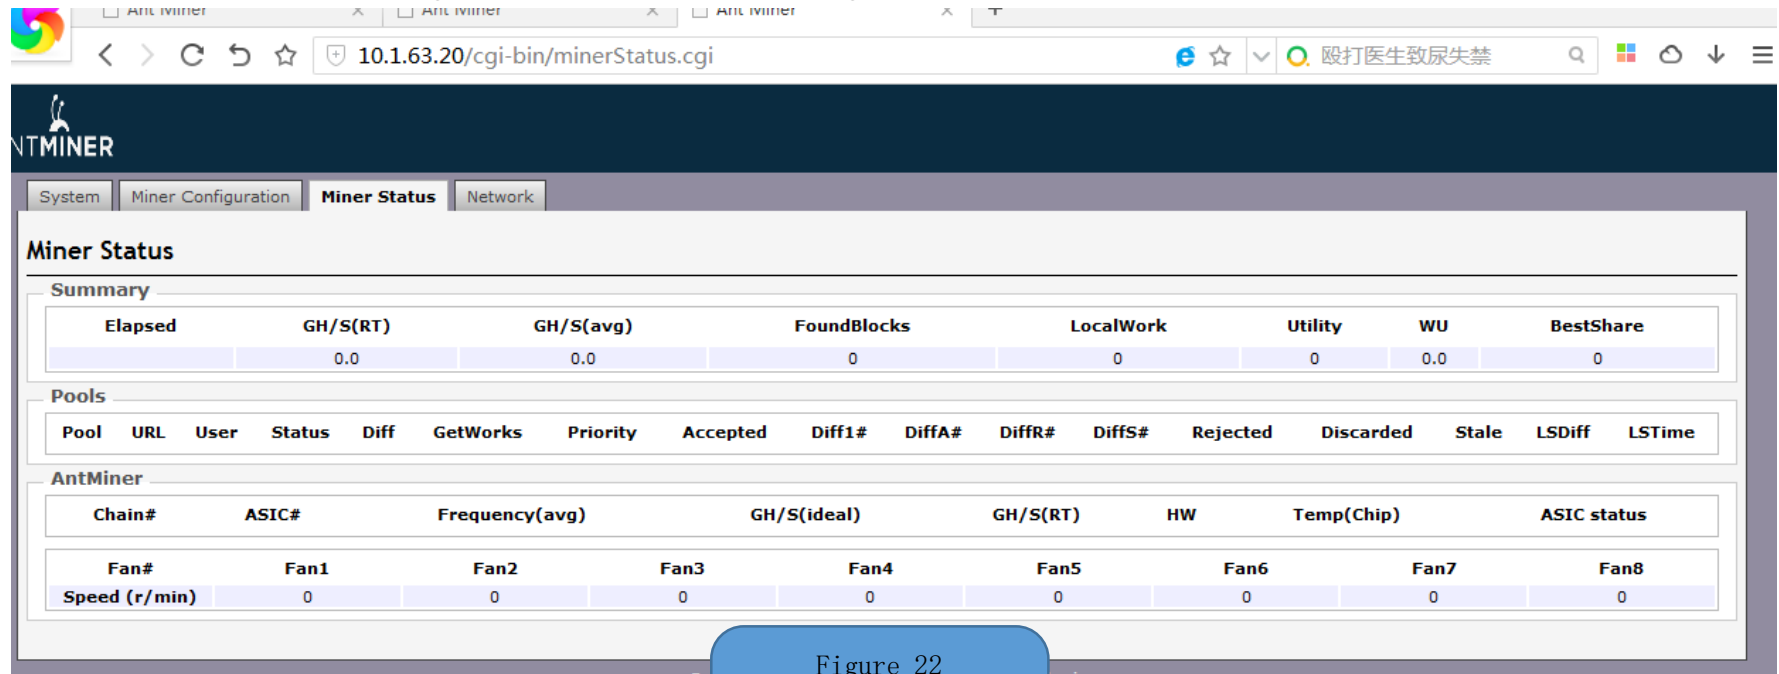

Figure 22
1.1 The hashrate interface has no configuration information. As shown in Figure 22 below: